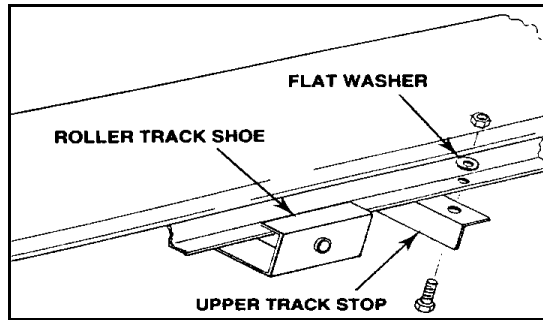

Figure 3.3
- All augers: slide roller trackshoe onto track. Attach the upper angle-iron trackstop with 7/16" x 1" bolts, heavy flat washers, and locknuts (Figure 3.3).